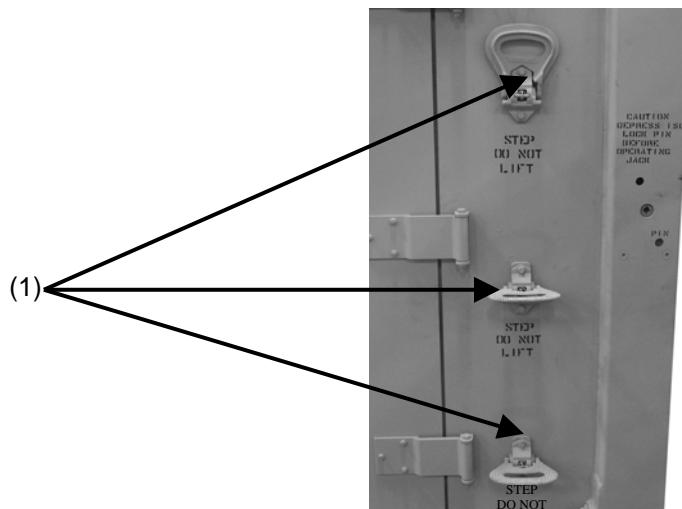

Figure 2-25. Folding steps located on personnel end wall.
- (1) MIL-STD-209J – Interface Standard for Lifting and Tiedown Provisions
- (2) MIL-STD-913A – Requirements for the Certification of Sling Loaded Military Equipment for External Transportation by Department of Defense Helicopters
Container may be lifted or moved with an overhead crane using an external sling. Folding steps (1) on container may be lowered to allow personnel to climb on top of unit (Fig. 2-25). Folding steps must be returned to upright position prior to container being moved. This allows easier access to ISO corners for attachment purposes. Hoisting from ISO corners should be performed as follows: